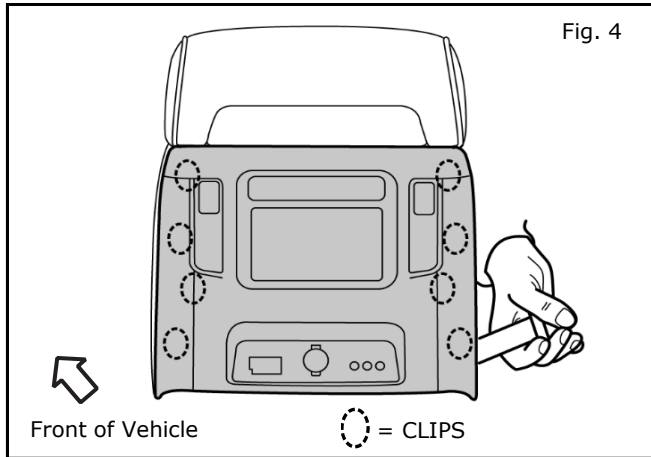

Fig. 4
- a) Starting from bottom of console using trim removal tool, remove console at six clip locations. See Fig. 4.